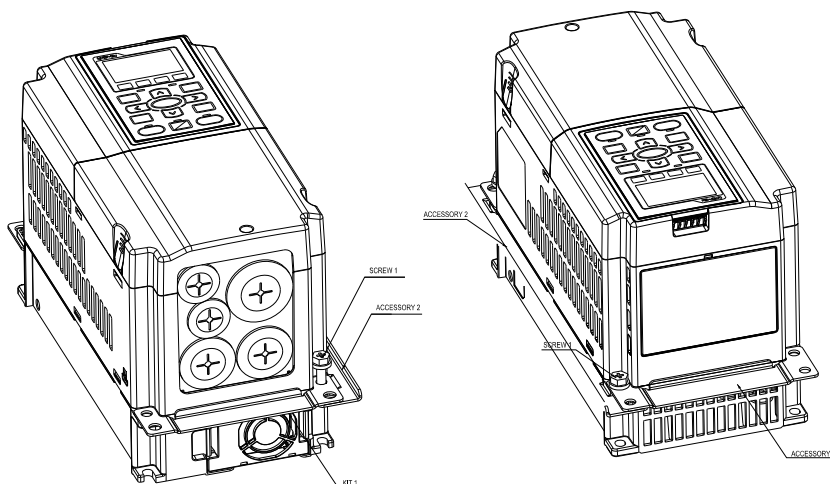

Figure 1
1. Fasten screw*2(M6) and accessory 2&3. Screw torque: 25~30 kg-cm / [21.7~26 lb-in.] / [2.5~2.9 Nm] (figure 1)